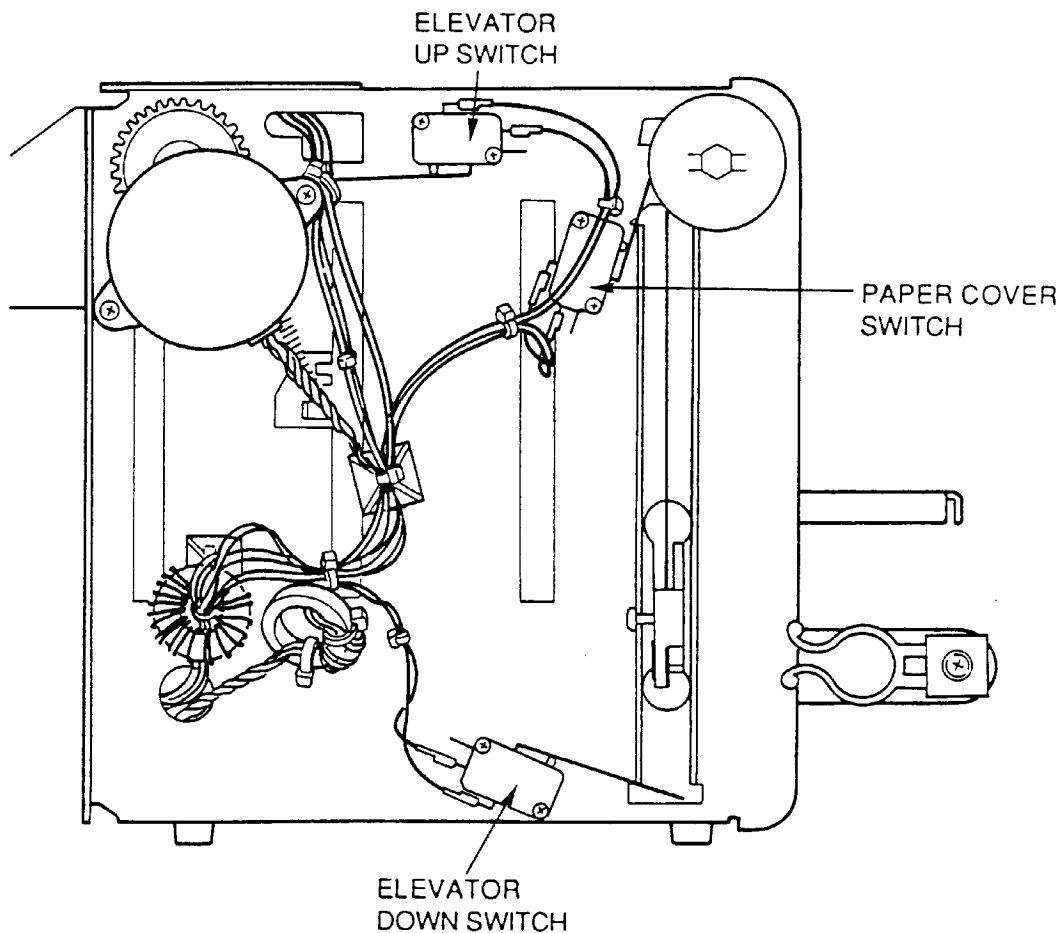

FIGURE 4-9. LEFT SIDE SWITCHES REMOVAL
3. Remove the appropriate switch (see Figure 4-9) as follows: